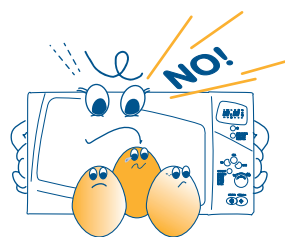

fig. 11
- 9) **Do not cook eggs in their shells** (fig. 11). Pressure will build up inside and can cause the egg to explode, even after cooking has finished. Do not reheat eggs cooked in their shells. Reheat scrambled eggs only.